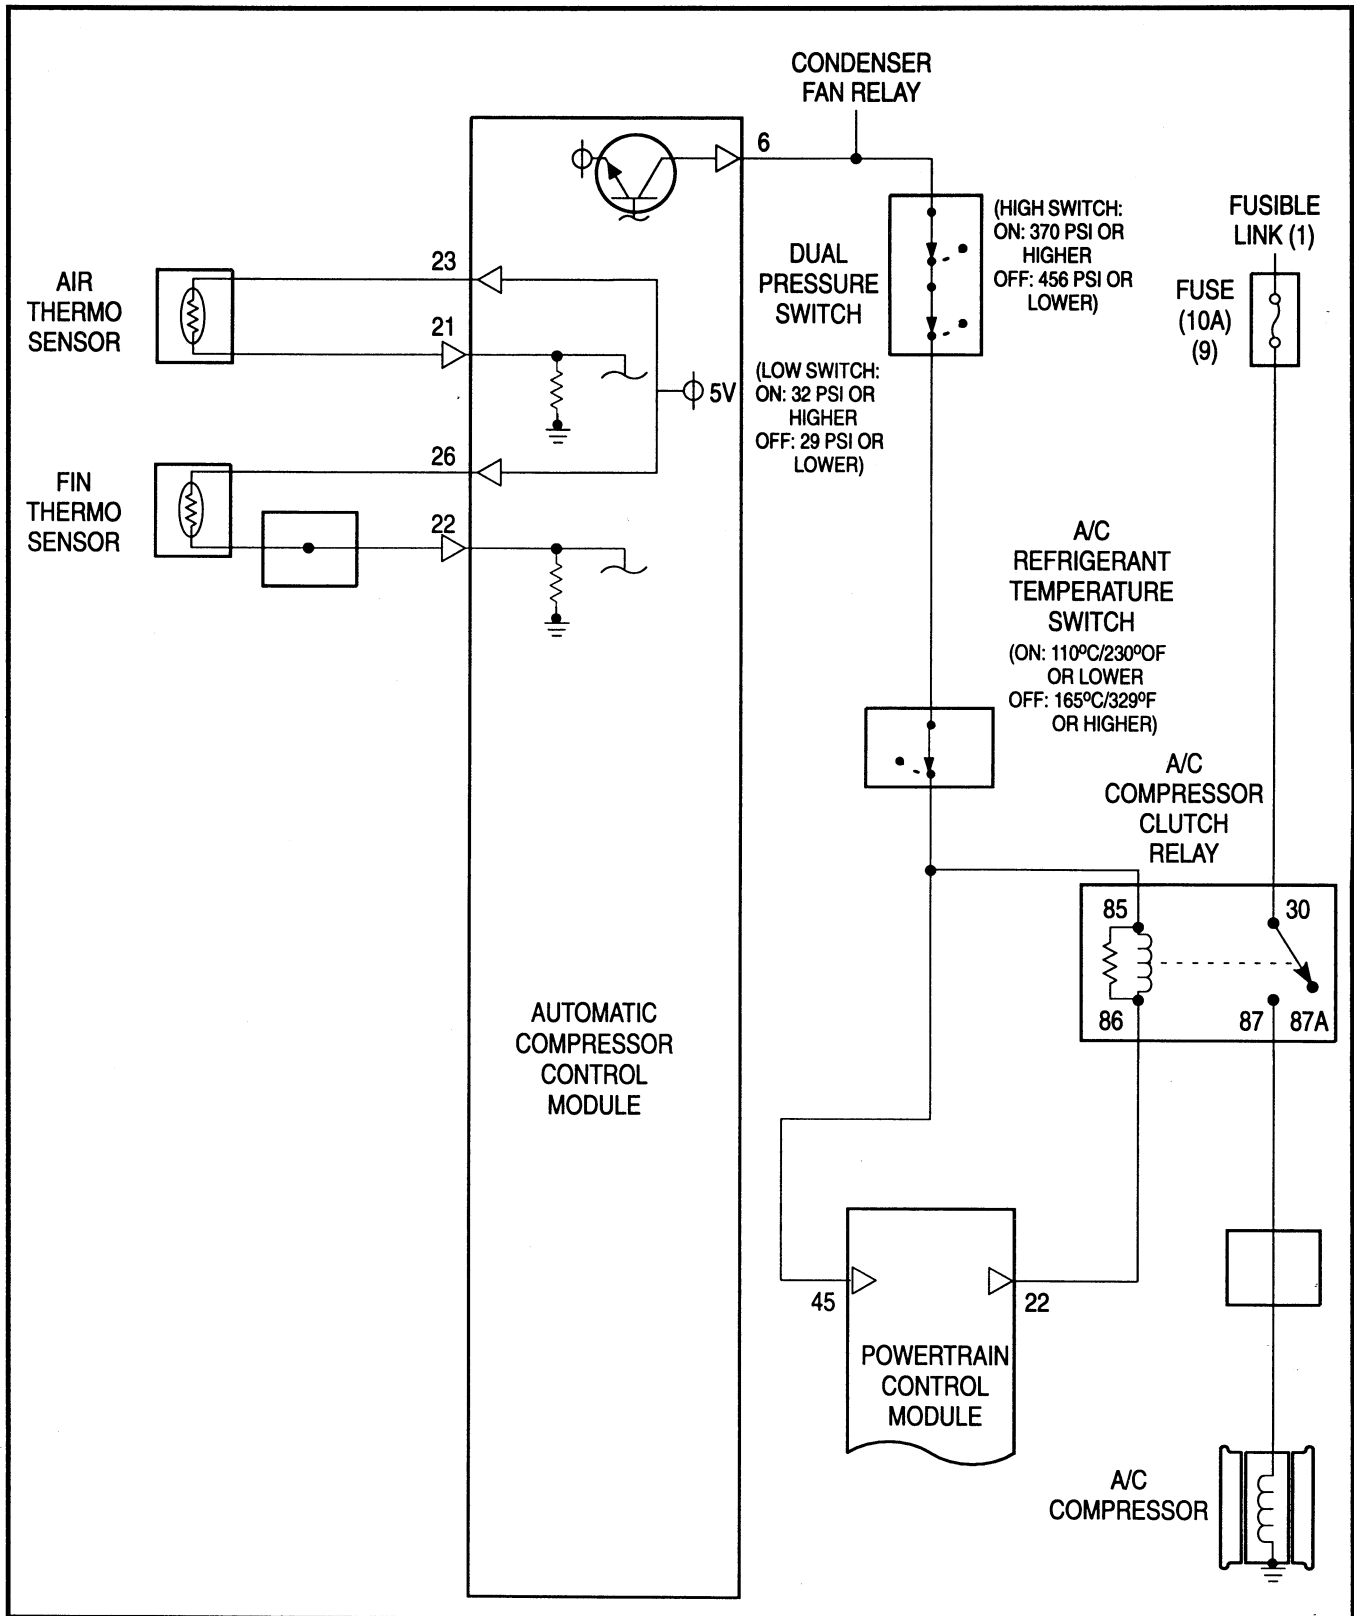
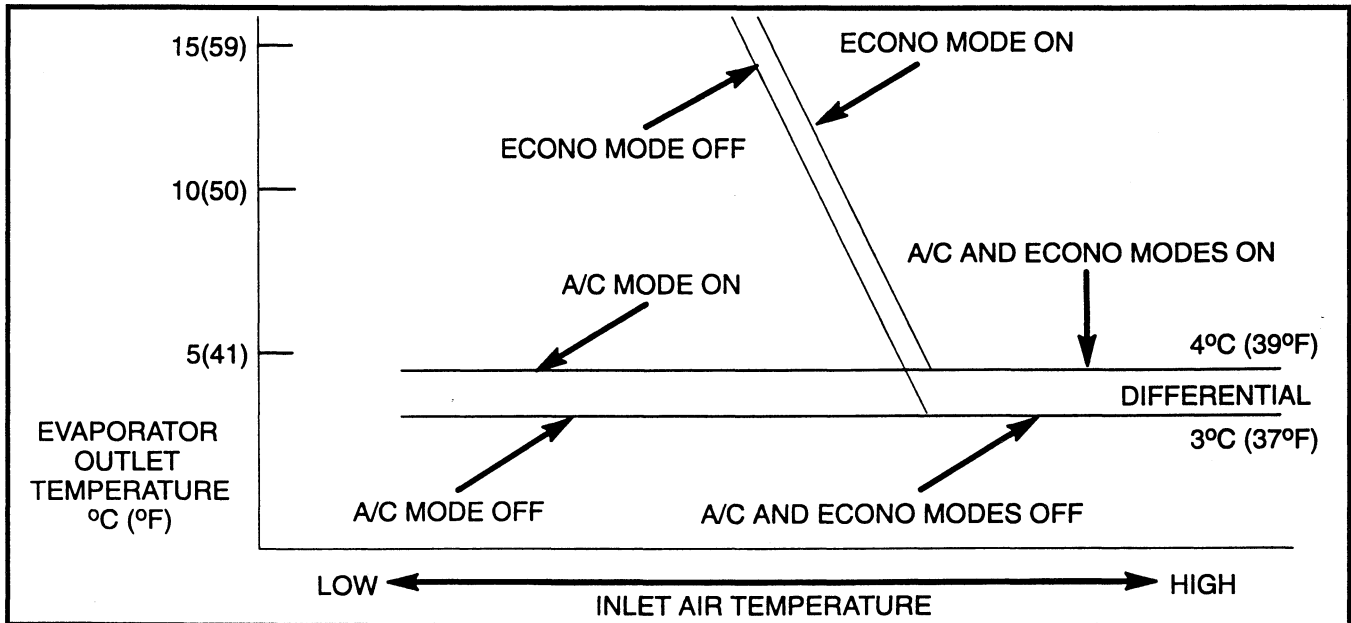

Figure 46 A/C Circuit
Figure 47 A/C Compressor Cycling Parameters
- **Air Thermo Sensor** - The air thermo sensor is used as an ambient temperature input to the auto compressor control module (fig. 46). This input is used in conjunction with the fin thermo sensor to engage the compressor clutch at the appropriate temperature ranges. The auto compressor control module sends a 5-volt reference signal through terminal 23 to the air thermo sensor. The sensor return is sent through terminal 21 of the auto compressor control module. The sensors resistance changes with the temperature of the air thus causing a change in voltage as temperature changes.
- **Fin Thermo Sensor** - The fin thermo sensor is used to identify the temperature of the evaporator (fig. 46). It is used in conjunction with the air thermo sensor to engage the compressor clutch at the appropriate temperature ranges. The auto compressor control module sends a 5-volt reference signal to the fin thermo sensor through terminal 26. The sensor return is sent through terminal 22 of the auto compressor control module. As temperatures of the evaporator change, the resistance of the sensor changes, thus causing a change in voltage at the signal input to the auto compressor control module.
The main output of the auto compressor control module is the A/C request signal (fig. 46). A signal is sent through terminal six anytime that the auto compressor control module requires the compressor to be engaged. The request signal is ON as long as A/C has been selected, and the air thermo sensor and the fin thermo sensor are indicating temperatures within the parameters as indicated in figure 47.
The compressor is equipped with a A/C refrigerant temperature switch that interrupts current flow to the A/C compressor clutch relay and the ECM if the compressor temperatures are too excessive (fig.46). The contacts are closed at A/C compressor temperatures below 230°F (110°C). The contacts open if the temperature of the compressor increases to 329°F (165°C) or higher. This aids in the prevention of A/C system damage due to high temperatures.